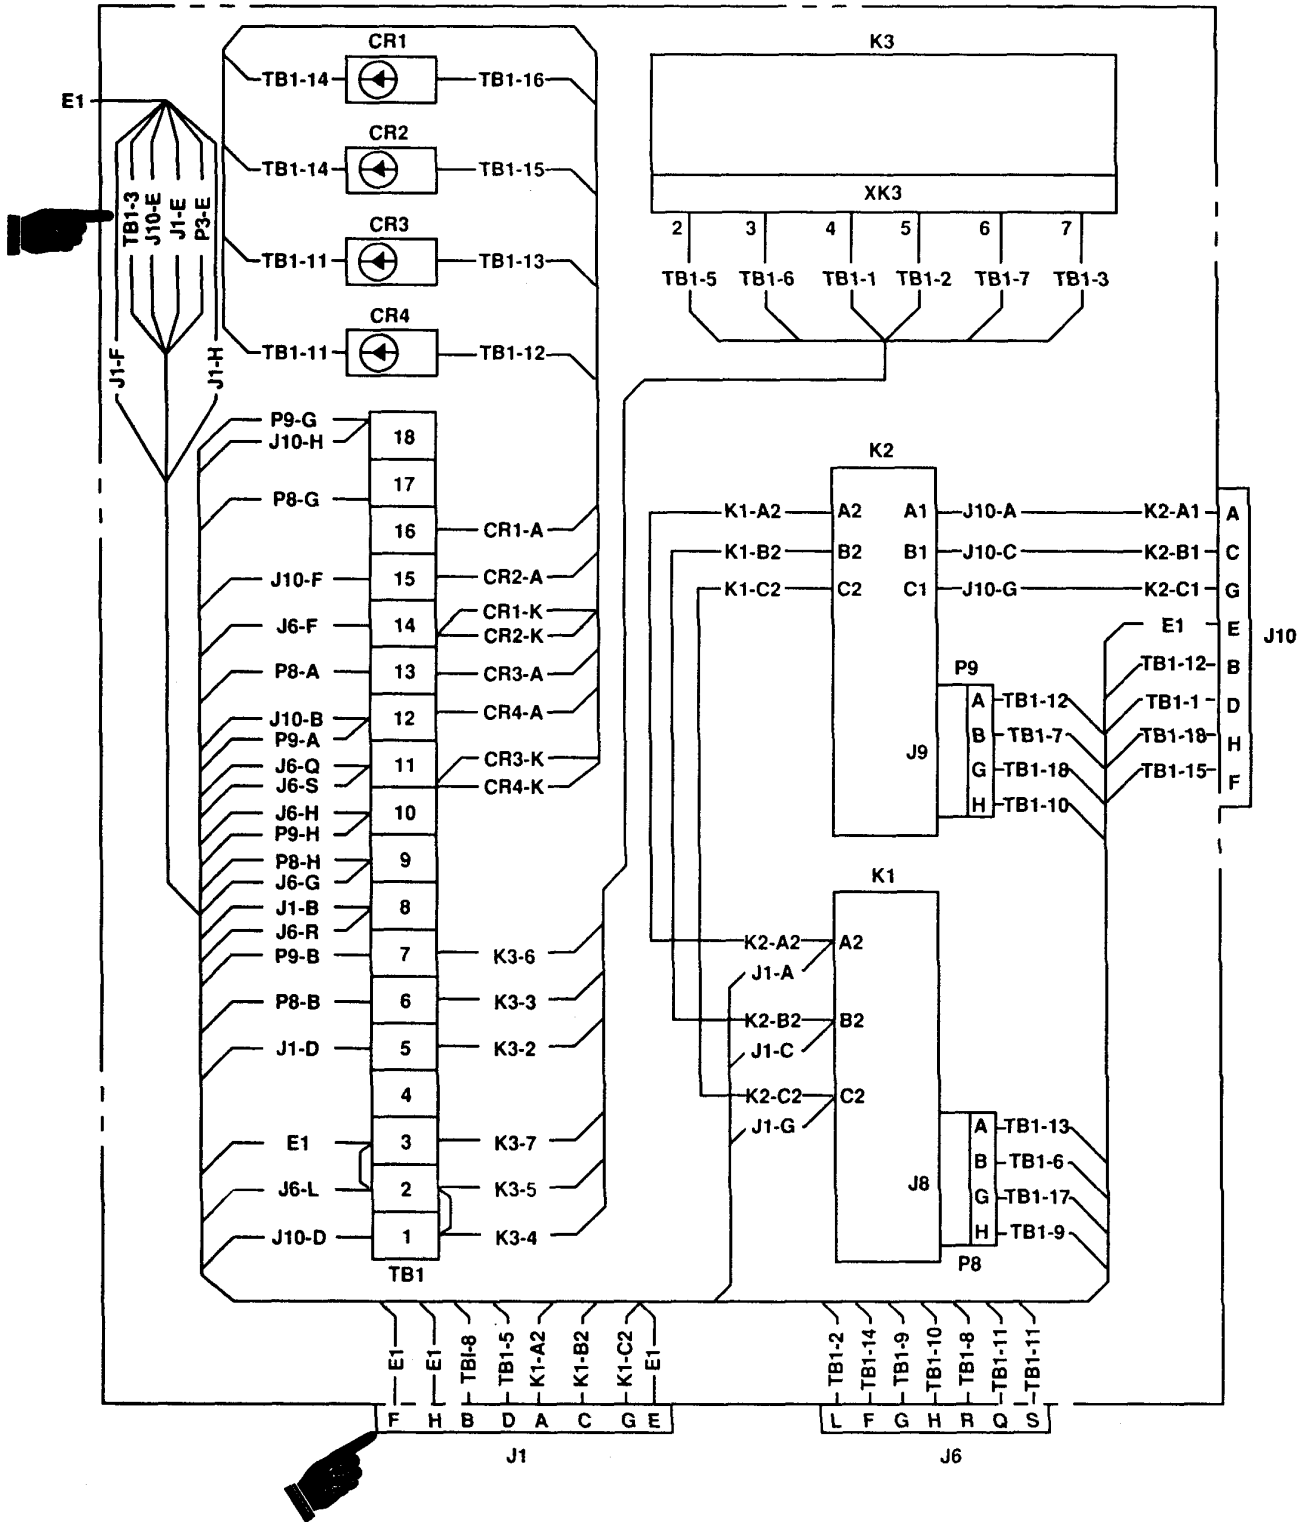
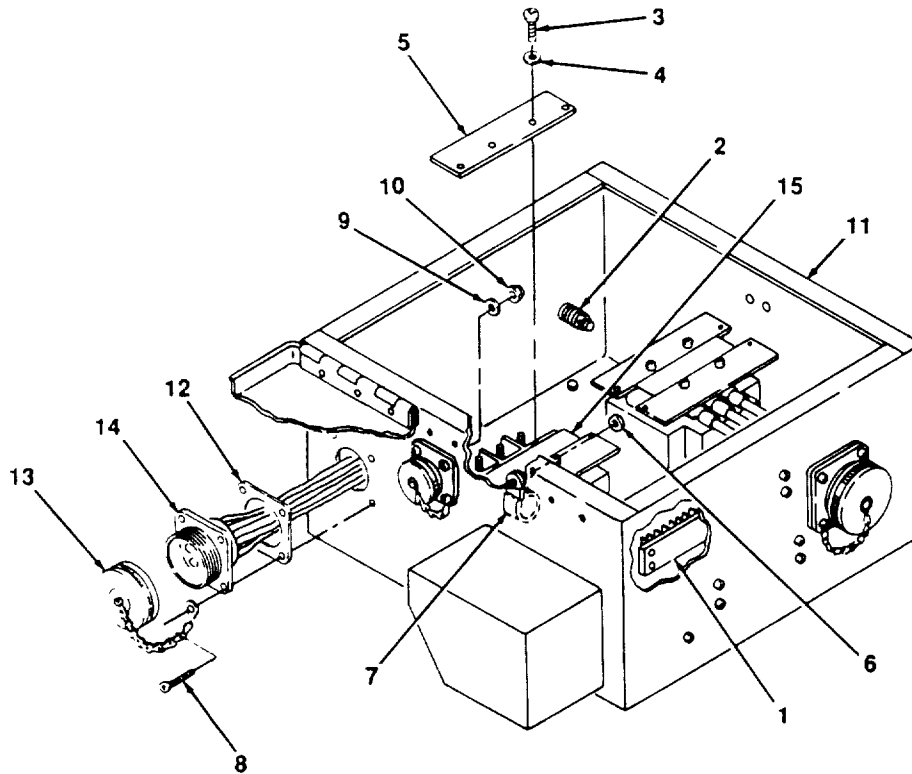

Figure 4-9. Power Distribution Unit Wiring Diagram.
Figure 4-10. J1 Wiring Harness Replacement.
4-23. **PDU Wiring Harness Testing.** (See figure 4-9). Continuity testing is used to detect faults in the PDU wiring harnesses. When performing continuity tests, refer to the wiring diagram, figure 4-9, for wire routing information.
- (1) Set multimeter controls for continuity testing.
- (2) Touch one multimeter test probe to connector J1 contact A and touch remaining test probe to K1 contact A2. Multimeter must indicate continuity. If it doesn't, there is an open in connector or wire.
- (3) Repeat step (2) for each remaining wire in harness. Refer to figure 4-9 for correct ongoing and destination of each wire.
- (4) If an open is detected in wiring harness, replace wiring harness (paragraph 4-24) or notify higher level of maintenance for repair.
- (2) Touch one multimeter test probe to connector J6 contact L and touch remaining test probe to TB1 contact 2. Multimeter must indicate continuity. If it doesn't, there is an open in connector or wire.
- (4) If an open is detected in wiring harness, replace wiring harness (paragraph 4-24) or notify level of maintenance for repair.
- (2) Touch one multimeter test probe to connector J10 contact A and touch remaining test probe to K2 contact A1. Multimeter must indicate continuity. If it doesn't, there is an open in connector or wire.
- (3) Repeat step (2) for each remaining wire in harness. Refer to figure 4-9 for correct origin and destination of each wire.
- (2) Touch one multimeter test probe to connector P8 contact A and touch remaining test probe to TB1 contact 13. Multimeter must indicate continuity. If it doesn't, there is an open in connector or wire.
- (2) Touch one multimeter test probe to connector P9 contact A and touch remaining test probe to TB1 contact 12. Multimeter must indicate continuity. If it doesn't, there is an open in connector or wire.
- (2) Touch one multimeter test probe to XK3 contact 2 and touch remaining test probe to TB1 contact 5. Multimeter must indicate continuity. If it doesn't, there is an open in wire, TB1 or XK3.
4-24. PDU Wiring Harness Replacement.**a. J1 Wiring Harness Replacement.** (See figures 4-9 and 4-10).**(1) Removal.**
- (b) Detach J1 wiring harness wires from terminal board TB1 (1, figure 4-10) and ground stud E1 (2).
- (c) Remove two screws (3) and two washers (4) and remove K1 contactor cover (5) from terminals A2, B2 and C2. Detach one J1 wire from each of these terminals.
- (e) Remove three nuts (6) and open three clamps (7) Remove two J1 wires.
- (f) Remove four screws (8), four flat washers (9) and four nuts (10) and pull J1 wiring harness out of PDU housing (11). Remove gasket (12).
- (g) Unscrew and remove connector cover (13) from connector J1 (14).
(2) Installation.
- (a) Slide gasket (12) over harness wires and up against flange of connector (14).
- (b) Feed wires through J1 opening in PDU housing (11).
- (c) Seat flange of connector J1 (14) against housing (11) and fasten with four screws (8), four flat washers (9) and four nuts (10). Make sure tab of connector cover chain (14) is mounted to flange with lower right corner hardware.
- (d) Install connector cover (13) on connector J1 (14).
- (e) Using figure 4-9 for wire routing information, connect two 16 gauge wires to terminal board TB1 (1), two 12 gauge wires and one 6 gauge wire to ground stud E1 (2) and three 1 gauge wires to contactor K1 (15). Install K1 cover (5) using two screws (3) and two washers (4).
- (f) Route two 16 gauge wires (to TB1) through clamps (7) and install nuts (6). Bind 16 gauge wires to J6 harness wires with tiedown straps.
b. **J6 Wiring Harness Replacement.** (See figures 4-9 and 4-11).
- (d) Remove two nuts (2) and open two clamps (3) Remove J6 wires.
- (e) Remove four screws (4), four flat washers (5) and four nuts (6) and pull wiring harness out of PDU housing (7). Remove gasket (8).
- (f) Unscrew and remove connector cover (9) from connector J6 (10).
- (a) Slide gasket (8) over harness wires and up against flange of connector (10).